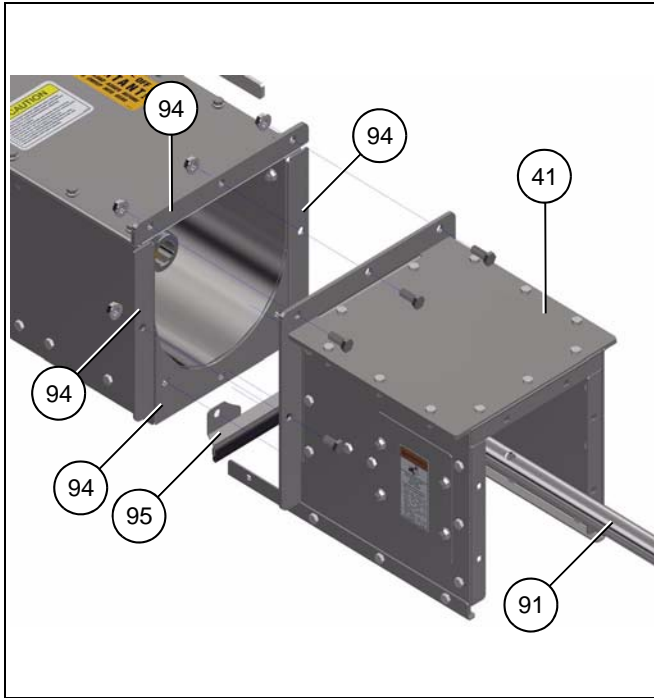

Figure 4AZ
1. Remove the powerhead (41) from the standard horizontal position by removing the eight bolts around the perimeter of the box flange (94). Remove the discharge gate seal (95). Remove the powerhead shaft (91) from the unloader flighting by removing two 3-1/2" bolts. (See Figure 4AZ.)